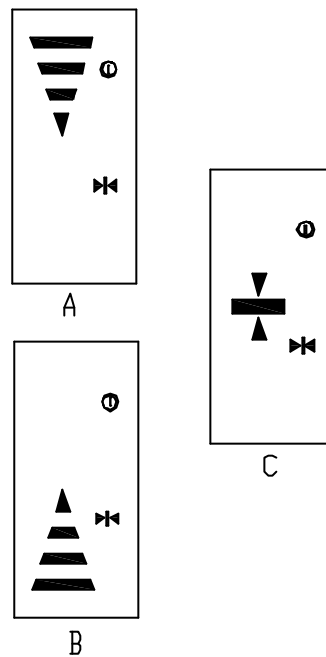

Figure 5
* When the instrument displays like figure 5-(A), move the instrument slightly downwards as indicated by the arrow. When it displays like figure 5-(B), move it slightly upwards as indicated by the arrow.
* When figure 5-(C) is displayed, the instrument is at the right position.